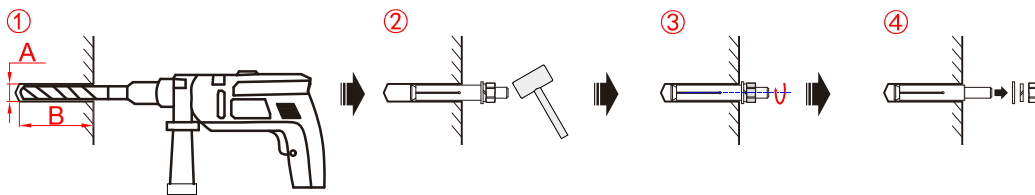

Figure3-14 Install the expansion bolt
2. Install the expansion bolts, as shown in Figure3-14.